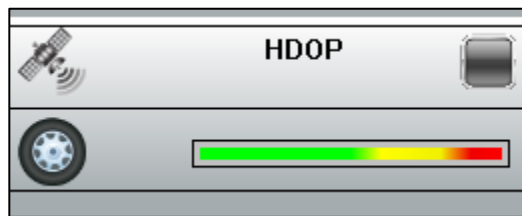

Figure 114: Red over speed. System dropping scans.
- 8** In order to minimize the travel time of the direct wave from the transmitter to the receiver, the antenna(s) should be positioned such that the transmitter dipole (TX) of the Channel 1 antenna is closest to the dipole of the receiver (RX) of Channel 2. The dipole polarity axis of all current GSSI shielded antenna models; 62000, 52600, 5100B, 5101, 3101A, 5103, 50400S, 5104A, 5106A is the same. The Transmitter dipole (TX) is located under the handle brackets of the antenna. The User should position the antennas next to each other in the manner show in Figure 114 (above) so that the transmitter of Channel 1 (on the right in Figure 114) is closest to the receiver on Channel 2(on the left in Figure 114 above). Once the User has positioned the antennas, ACCEPT the System Settings.